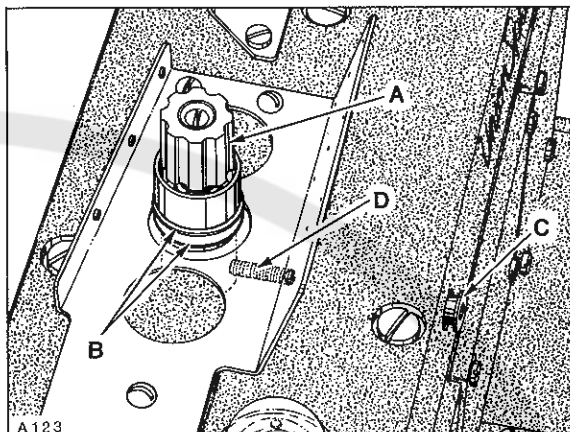

Fig. 23
Needle thread tension assembly (A, Fig. 23) is set correctly when the tension discs (B) start to release as the presser foot is raised to within 1/8 inch (3.2mm) of the end of its travel and completely released when presser foot has reached its highest position.